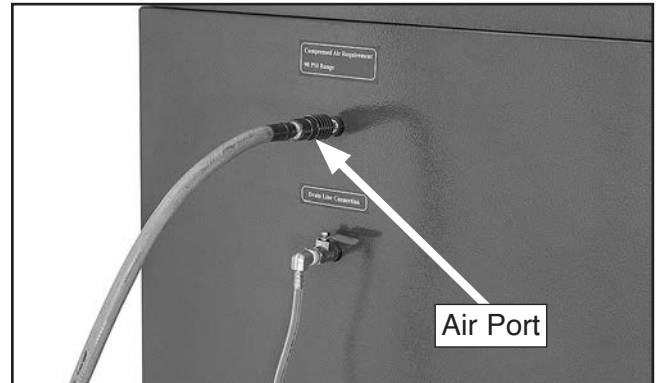

Figure 34. Air hose attached.
2. Connect compressed air hose to air port (see **Figure 34**).